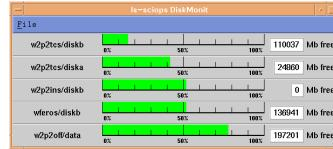

Figure 1.5: **FEROS DRS** Disk Monitor to check free disk space.
6. On the FEROS pipeline screen, check that there is enough free disk space under w2p2off/data (Fig 1.5).